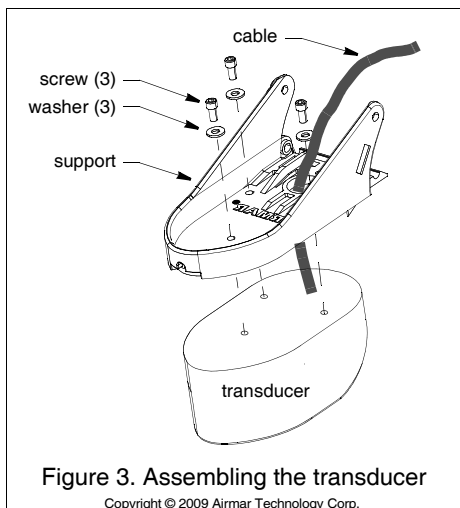

Figure 3. Assembling the transducer
1. Thread the cable through the large hole in the transducer support (Figure 3).